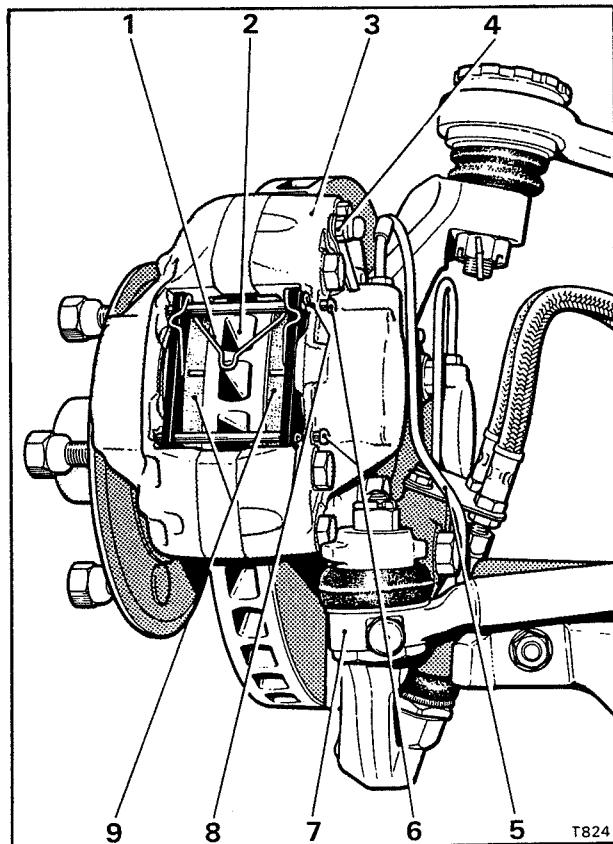

Fig. G33m Front wheel front brake caliper
11. Locate the ends of the 'M' spring into the centre holes of the brake pad back plate. Ease the spring into position and secure with the leading, pad retaining pin. Fit the pin retaining clip. When fitted the 'ears' of the 'M' spring must rest on the edge of the brake pad backing plate, with the bends at the top of the 'M' configuration butting against the caliper body (see Fig. G33m).